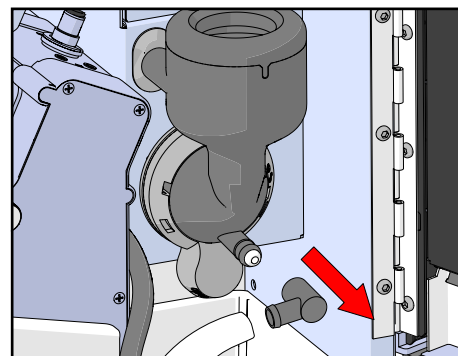

Figure 47.
4. Disconnect the outlet hose from the mixers (see Figure 47).